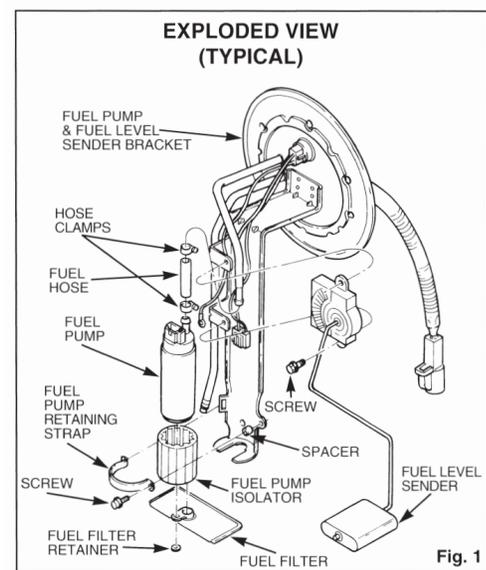

Fig. 1
B) Replace Fuel Pump (Refer to Fig. 1)